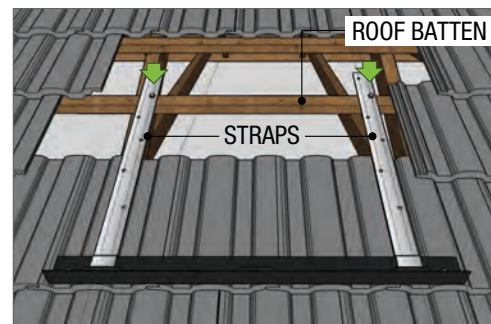

Fig 3
- b. Position the bottom collector rail on the front edge of a tile ensuring the rail is at least 500mm up from the gutter (Fig 3)
- d. Remove the tiles above the rail at strap location and secure the straps to the batten with the screws supplied (Fig 3)